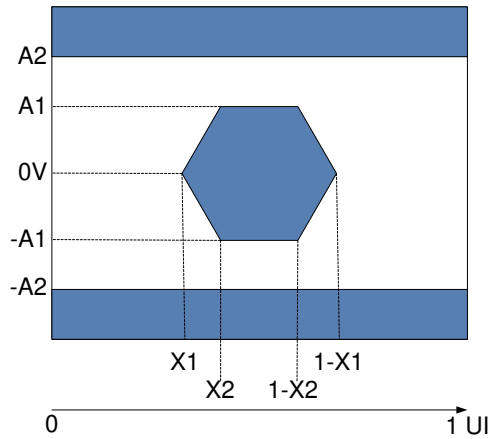

图 6-11. HSSI Eye Characteristics
(1) All power supply connections are required to operate the DMD: VDD, VDDA, VOFFSET, VBIAS, and VRESET. All VSS connections are required to operate the DMD.
(2) All voltage values are with respect to the ground pins (VSS).
(3) To prevent excess current, the supply voltage delta | VDDA - VDD | must be less than specified limit.
(4) To prevent excess current, the supply voltage delta | VBIAS - VOFFSET | must be less than specified limit.
(5) Supply power dissipation based on 3 global resets in 200 μs.
(6) LVC MOS input specifications are for pin DMD\_DEN\_ARSTZ.
(7) LVC MOS output specification is for pins LS\_RDATA\_A and LS\_RDATA\_B.
(8) Refer to Figure 6-11, Receiver Eye Mask (1e-12 BER).
(9) Defined in Recommended Operating Conditions.